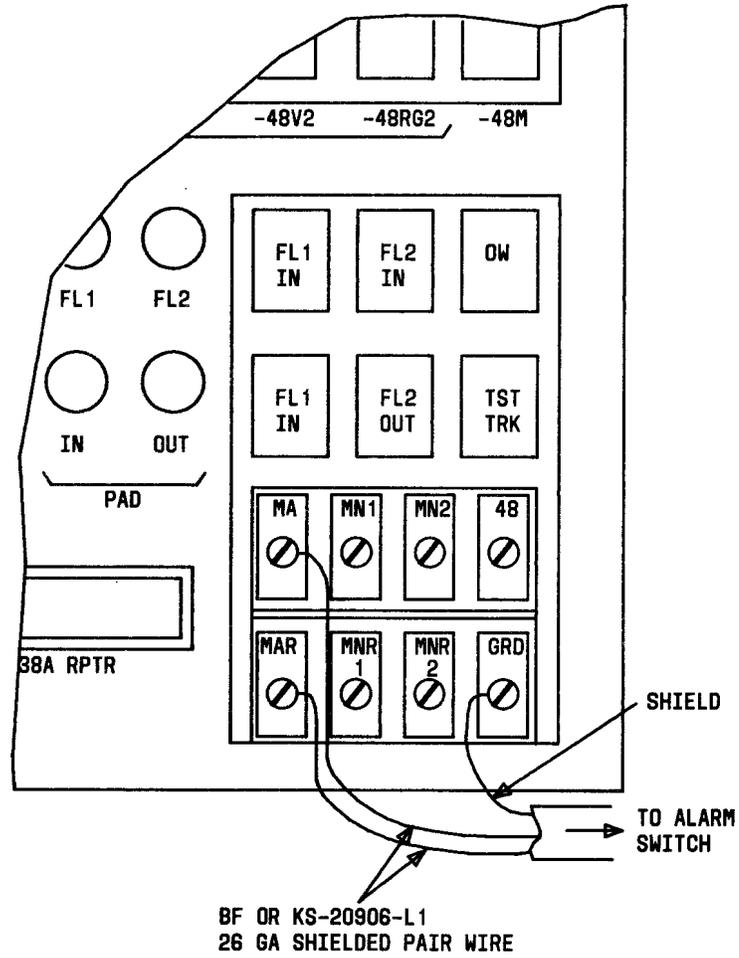

Fig. 11—Terminating Shielded Alarm Pair From Miscellaneous Pair Panel to 1A Power and Jack Panel
- (6) Connect lead (P110) from upper battery shelf to jack (J110B) on 3A battery charger.
- (7) Connect lead (P111) from upper battery shelf to jack (J111B) on 3A battery charger.
- (8) Make electrical and optical connections to the intermediate cabling provided in the prewired structure as follows. Refer to Section 640-250-224.
- (f) If necessary, connect corresponding intermediate F alarm cables to power and jack panel. See Fig. 11.